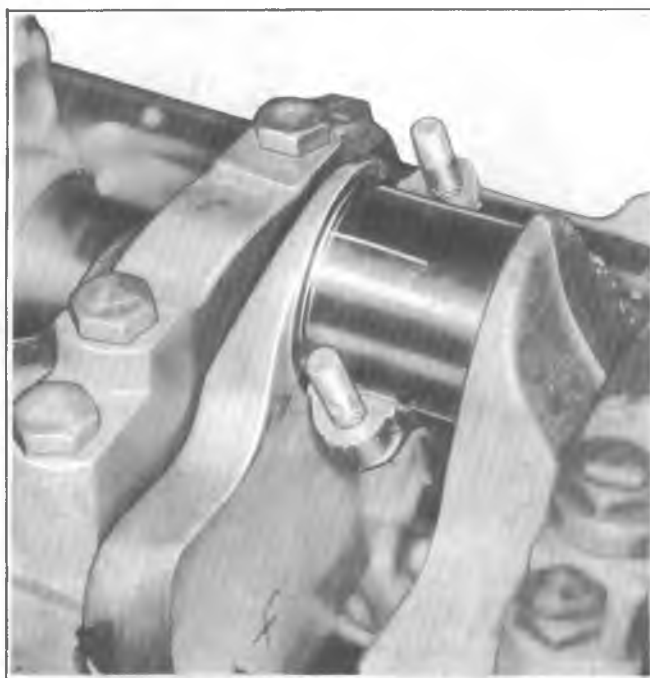

Fig. 6A5-41--Gaging Plastic On Crankpin
- a. Place a piece of gaging plastic, the length of the bearing (parallel to the crankshaft), on the crankpin or bearing surface (fig. 6A5-41). Plastic gage should be positioned in the middle of upper or lower bearing shell. (Bearings are eccentric and false readings could occur if placed elsewhere).